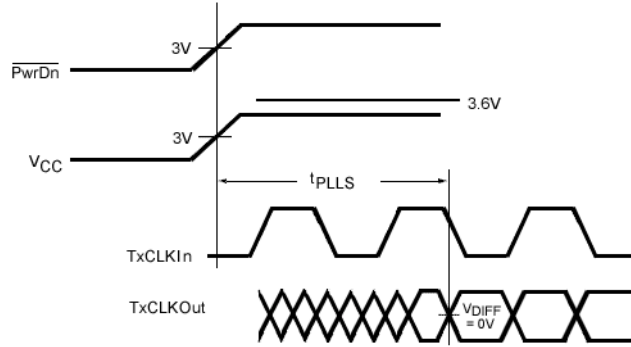

FIGURE 11. Transmitter Phase Lock Loop Set Time
- Switching input data TxIn0 to TxIn20 at 0.5 MHz, and the input clock is shifted to left  $-3$ ns and to the right  $+3$ ns when data is HIGH (by switching between CLK1 and CLK2 in Figure 11)